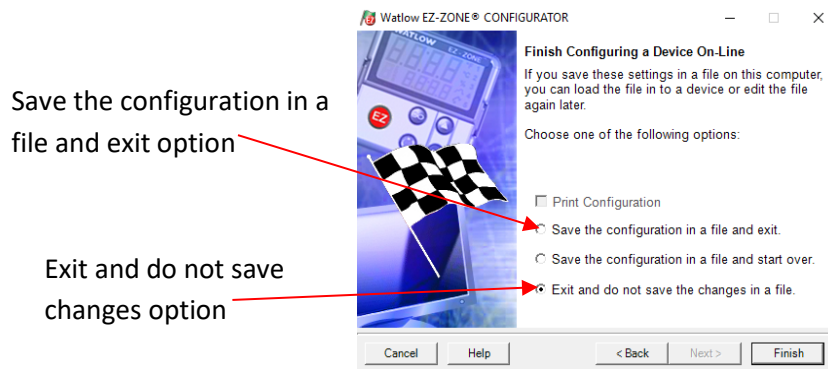

Figure 51: Final screen of Watlow Configuration Software
15. Select **Exit and do not save the changes in a file**. Click **Finish**. Or to save a backup with the new offsets, select the radio button **Save the configuration in a file and exit**. Refer to Figure 51.